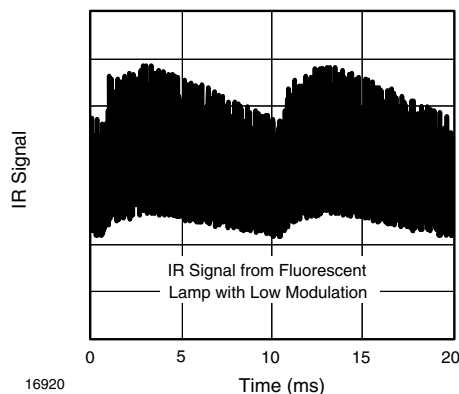
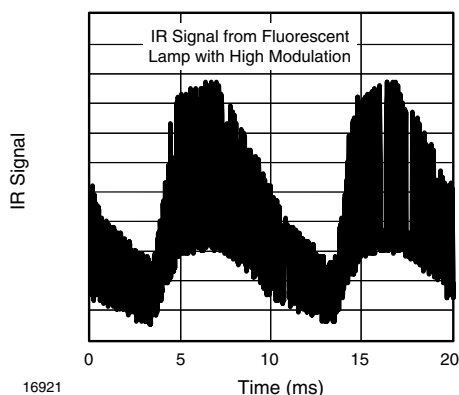

Fig. 15 - IR Signal from Fluorescent Lamp with Low Modulation
Fig. 16 - IR Signal from Fluorescent Lamp with High Modulation
- Modulated noise from fluorescent lamps with electronic ballasts (see figure 15 or figure 16)